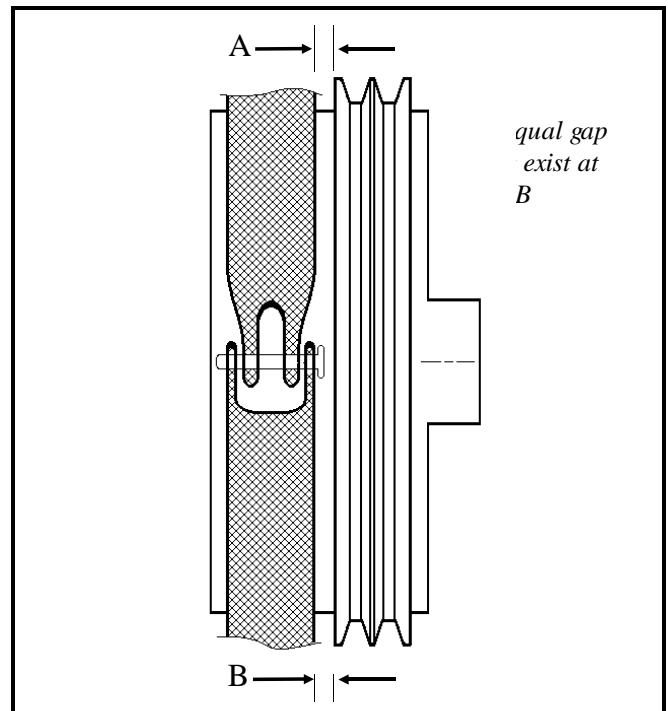

Figure 5 (MSSM0231AE)
9. Mount air cylinder onto frame and tighten mounting bolts. Determine that the edges of the brake shoes do not contact the pulley on the clutch drum. An even gap must exist between the brake shoes and the pulley as shown in figure 5. If necessary, loosen air cylinder mounting bolts and adjust the angle of the cylinder bracket to achieve an even gap. Remove wooden spacer used to hold the cylinder shaft extended.